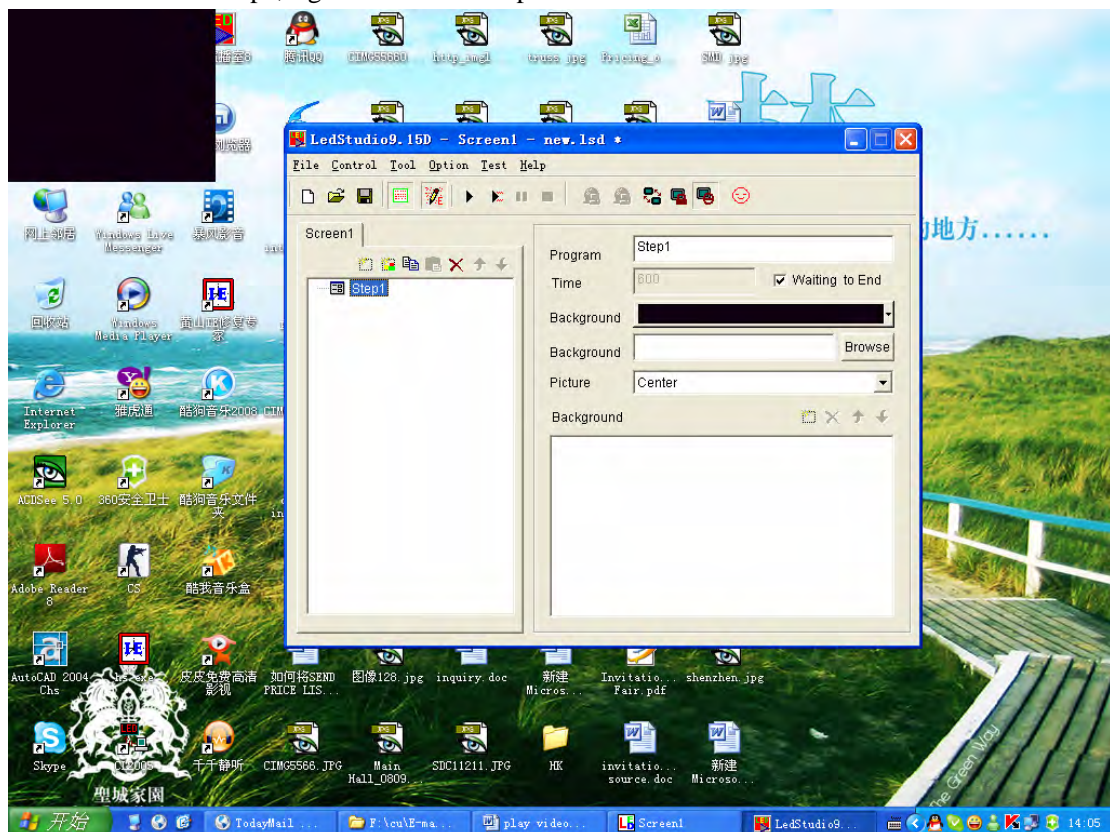

Figure 3
3. click on “add step”, figure 3 will show up